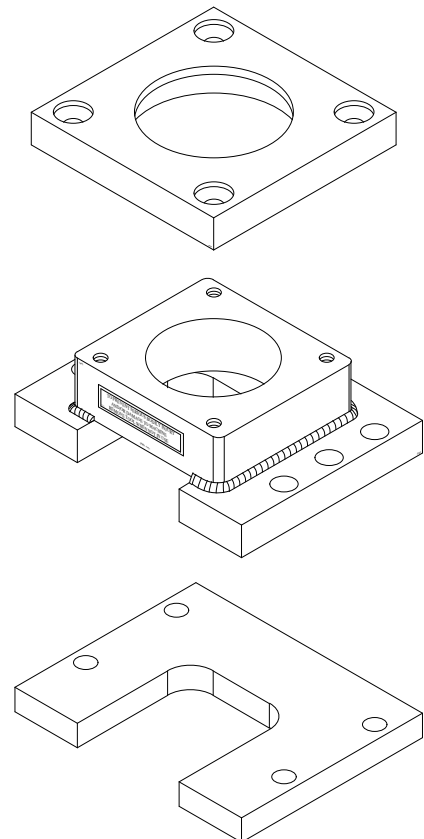

FIGURE 29
Because of its design, the maximum punching capacity of the offset die holder is forty (40) tons. SEE FIGURE 29
The 2-1/2 and 3 inch (63 and 76mm) die holders are used in place of the standard die holder. These die holders are for oversized punching. SEE FIGURE 29
Capacities for oversize punching with this tool go up to 4 inches (102mm). SEE FIGURE 29